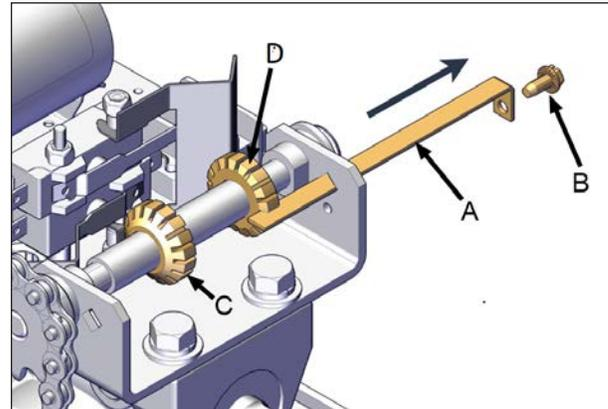

FIGURE 61: CAM PLATE REMOVAL
3. Remove the slotted retaining screw (item B, Figure 61) and slide the cam plate (item A,
Figure 61) out from the operator frame. Be careful not to rotate the cam wheels (items C and D, Figure 61).